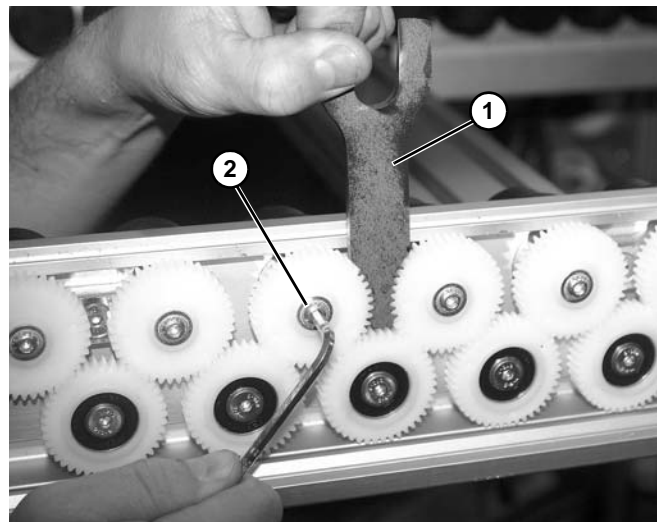

Figure 17
4. Install sprocket removal tool, part number 400289 (**Figure 17, item 1**) between gears.
5. Remove screw (Figure 17, item 2) holding gear onto roller shaft.